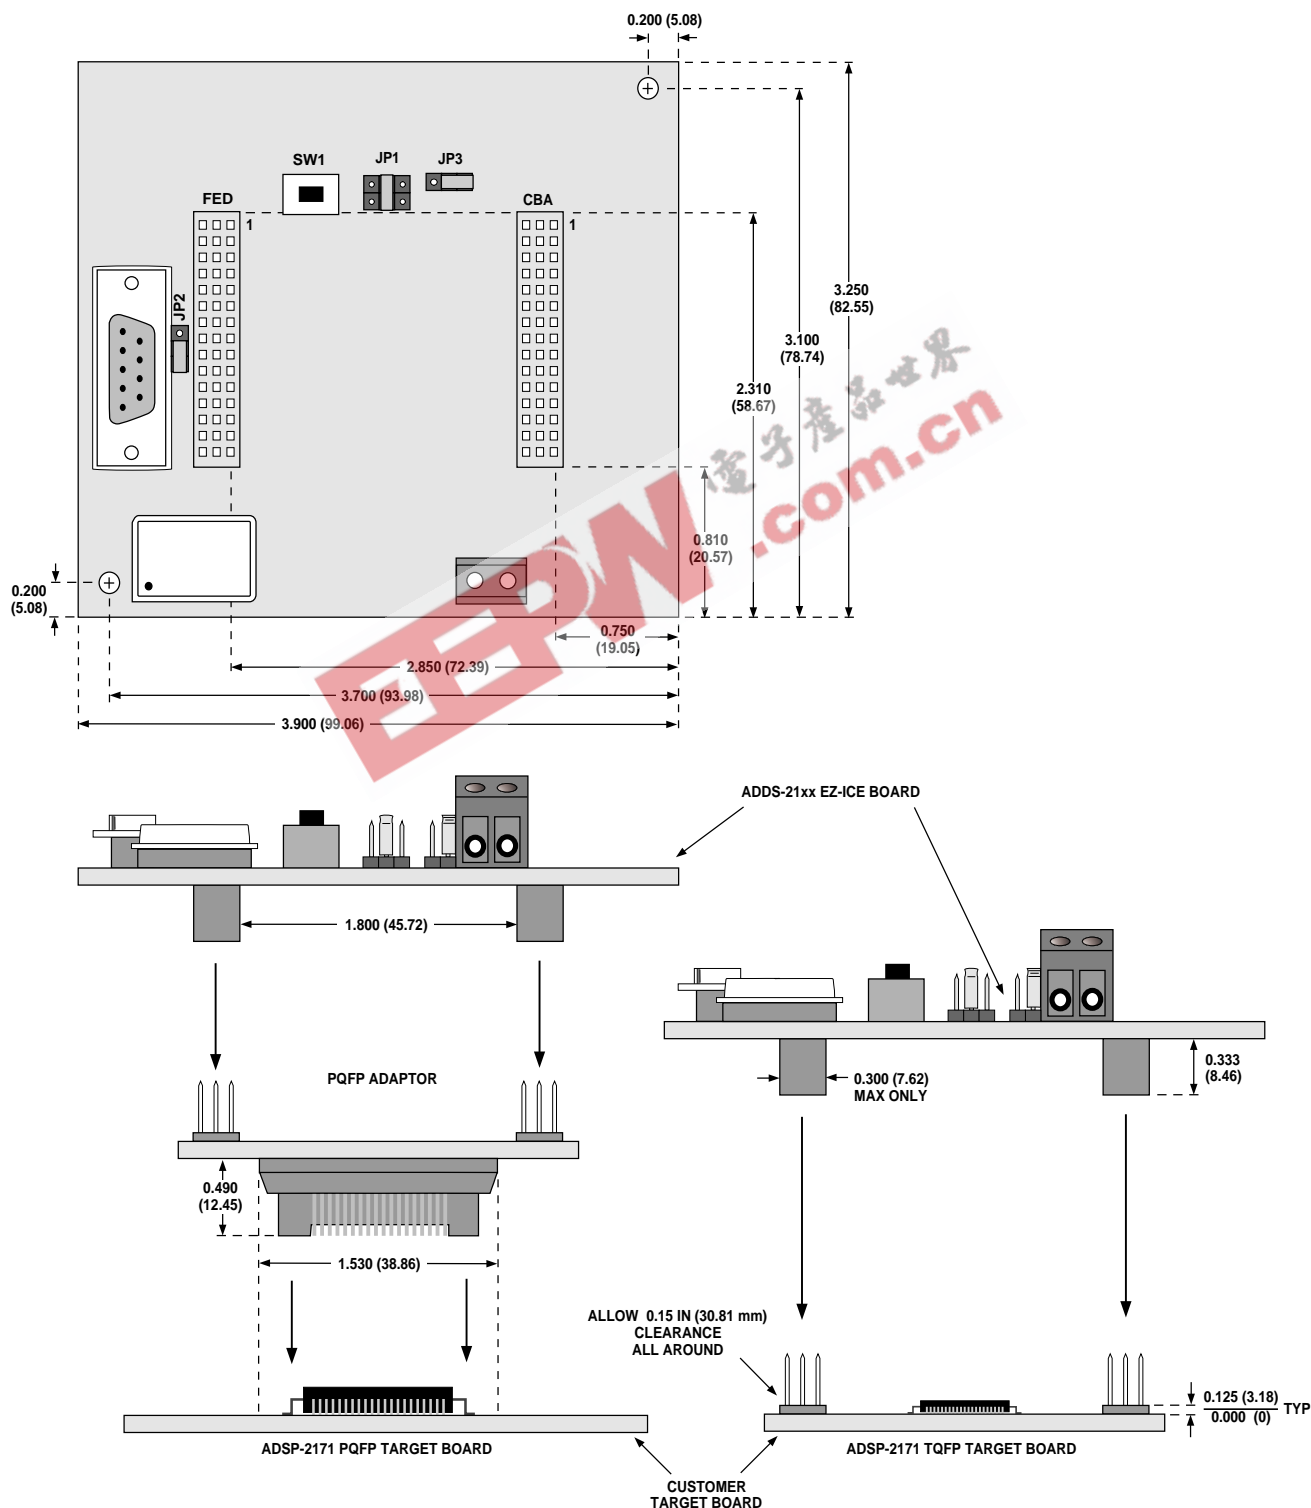

Figure 2. ADDS-2171 EZ-ICE Installation
The ADSP-2171 EZ-ICE In-Circuit Emulator is a development tool for debugging programs running in real time on a target system based on the ADSP-2171 processor. This is made possible through the use of the ADDS-21xx EZ-ICE Board which differs from other EZ-ICE models in its use of a pair of dedicated header connectors that allow it to plug directly onto the target board and interface with the target DSP (see Figure 2) or to use an adaptor to clip onto the target DSP itself, depending on the device package used.
The ADSP-2171 EZ-ICE attaches to the target DSP chip by simply clipping over the PQFP package version of the DSP. An alternate approach is needed for use with the TQFP package version of the DSP. Because the TQFP packaged chip and its leads are too small for a probe, the target board should include a pair of header connectors to allow the EZ-ICE board to plug directly onto it in order to interface with the DSP chip. Both methods are illustrated in Figure 2.
An alternate approach is required for the TQFP chip package. Because of the extremely low profile of the surface mount TQFP package, it is not practical to use a snap-on adaptor or probe. Thus, in order to use the EZ-ICE, it is necessary to provide a pair of header connectors on the target board that the ADDS-21xx EZ-ICE board can plug directly onto. Extra space around the adaptor and extra through-holes to the PQFP package are not required to let you use the same PCB in production. Dimensional requirements for placing the headers is also shown in Figure 2.
To provide emulator interface capability to your target DSP board design, you must add a pair of 45-pin male headers to your board. The EZ-ICE's ADDS-21xx Emulator Board (EB) plugs directly onto the connectors, becoming a daughter card to your target system. Figure 2 shows how this is accomplished and some of the critical dimensions involved. (Note: Pin strip headers should be SAMTEC part number TSW-115-07-S-T or equivalent.) It is important that there is approximately 0.40 inches clearance around the connectors.